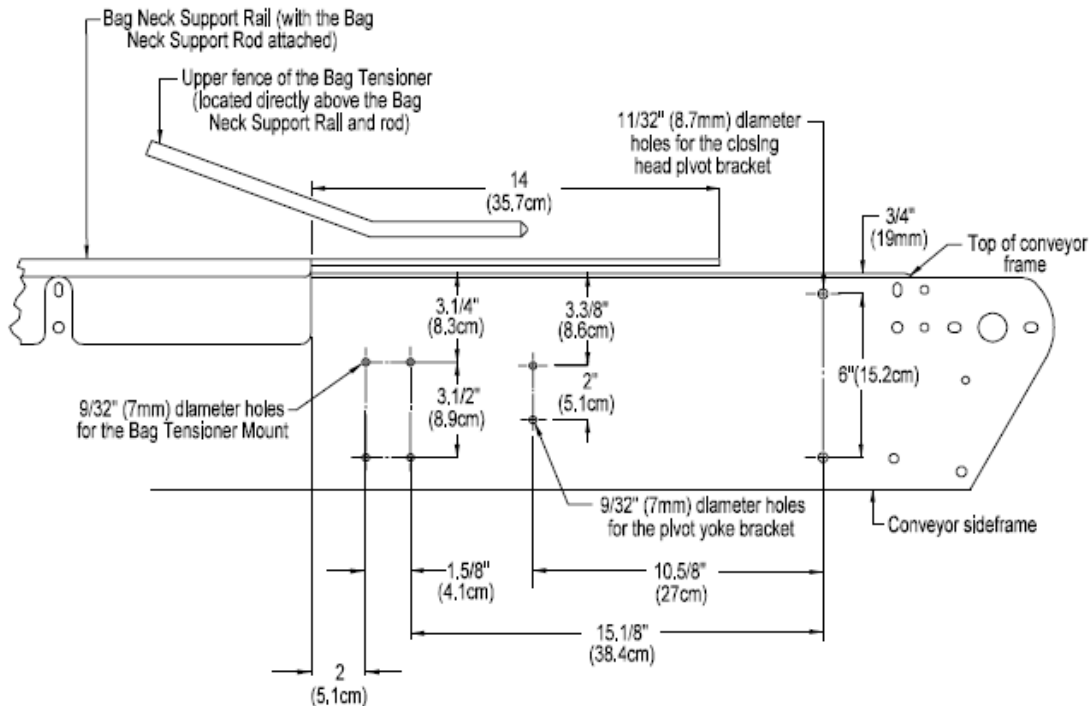

Figure 2.2
B. Mounting Closetl® on Conveyor: (Figure 2.1 & Figure 2.2)